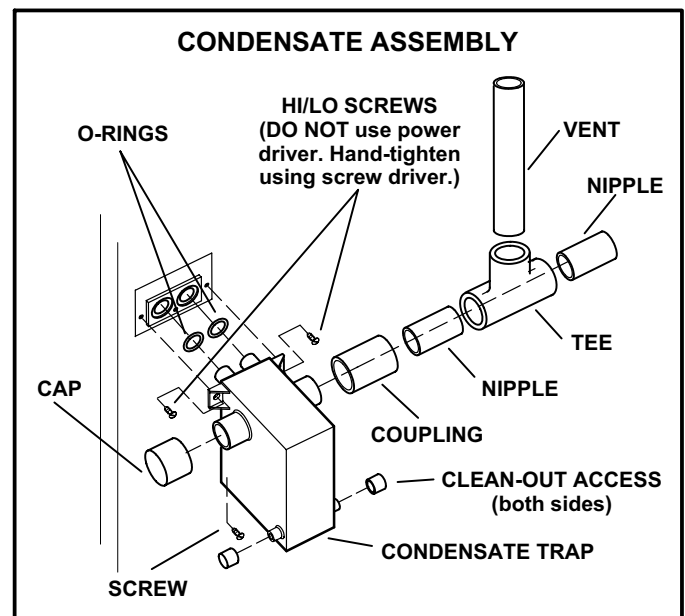

FIGURE 27
- 2 - Install condensate trap onto the condensate collar. Use provided HI/LO screws to secure two upper flanges of the trap to the collar. Use provided sheet metal screw to secure bottom trap flange to side of unit. See figure 27.